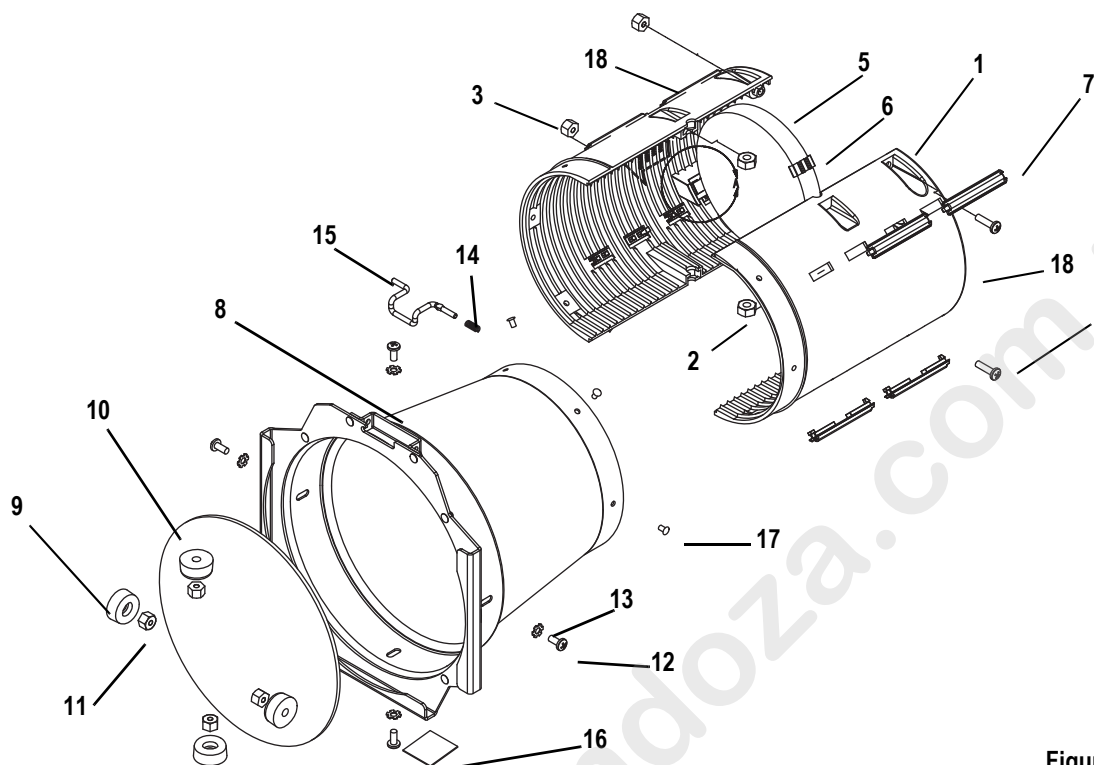

Figure 21
- Step 2: Install the eight bushing guides (7). Point the narrow tab on the bottom toward the back of housing; point the square tab toward the front. Squeeze the guides slightly so they end in the middle, then snap into place. Make sure the rounded side of the guide faces outward from the tube.
- Step 3: Install the front lens (10) in the tube using required bumpers (9), screws (12), nuts (11), and washers (13) as shown in Figure 21. Colored dot on lens should face towards the front.
- Step 2: If necessary, remove the front lens to access the front surface of the rear lens for cleaning. Remove the four screws (12), nuts (11), washers (13) and bumpers (9) and gently lift out front lens as shown in Figure 21. Reassemble in reverse order.